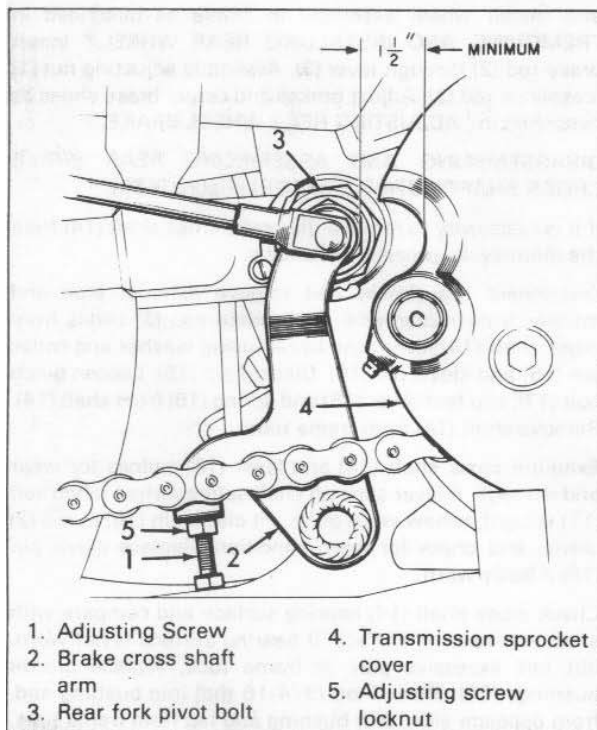

Figure 2-58. Rear Brake Cross Shaft Adjustment - 1974 and Earlier
See Figure 2-58, and proceed as follows: Adjust cross shaft adjusting screw (1) so that with screw against its stop on frame, the top of the cross shaft arm (2) is slightly